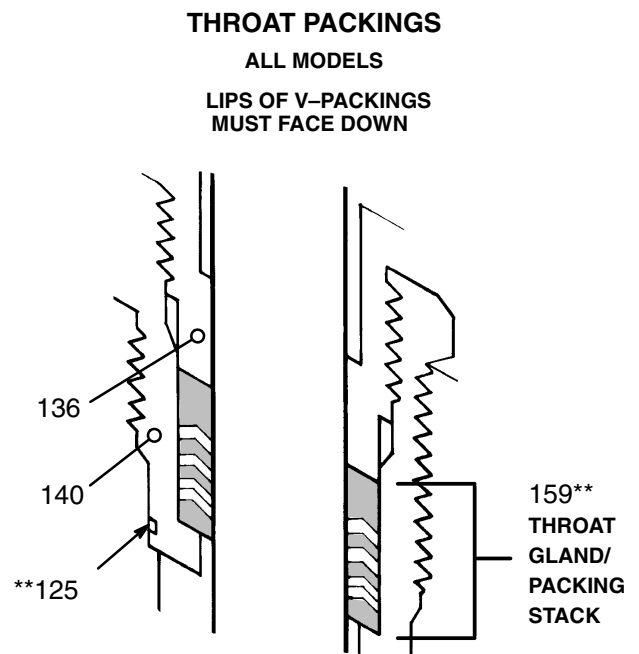

Fig 4
18. Refer to Fig 4. The gland/packing stack (159**) for the throat is preassembled. **Do not disassemble the stack.** Place the gland/packing stack into the packing nut (140). *Be sure the lips of the v-packings are facing down.*
19. Place an o-ring (102**) in the groove of the wet-cup packing nut (136). Loosely install the wet-cup packing nut (136) and the wet-cup (101) into the pump housing (109).